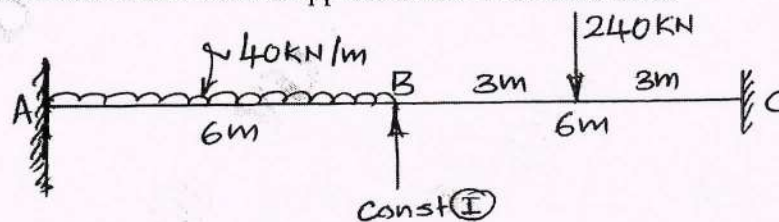

Fig.Q9
- 9 Analyze the continuous beam shown in Fig.Q9 by stiffness method, using system approach. Draw BMD, SFD and elastic curve. Supports A and C are fixed ends.